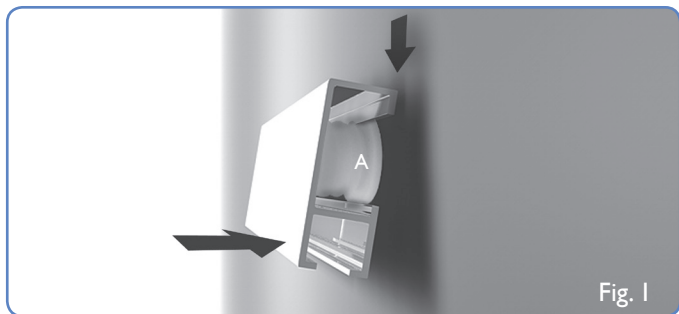

Fig. 1
2.The Rail **J** you pressed on to the wall-clip **A**. (Fig.1)